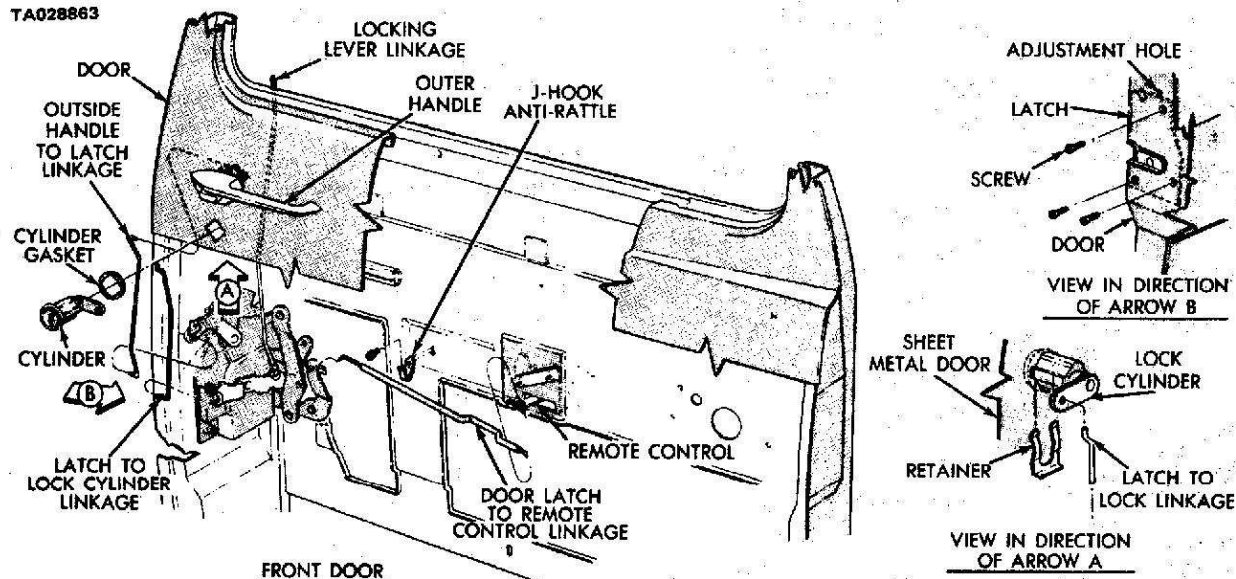

Figure 2-108. Latch, Lock, and Linkage.
a. Assembling the Latch, Lock, and Window Linkage. Refer to figure 2-108.
(1) Install the latch assembly to the door.
(2) Install the lock to the door.
(3) Connect the linkage between the handle and the latch release lever.